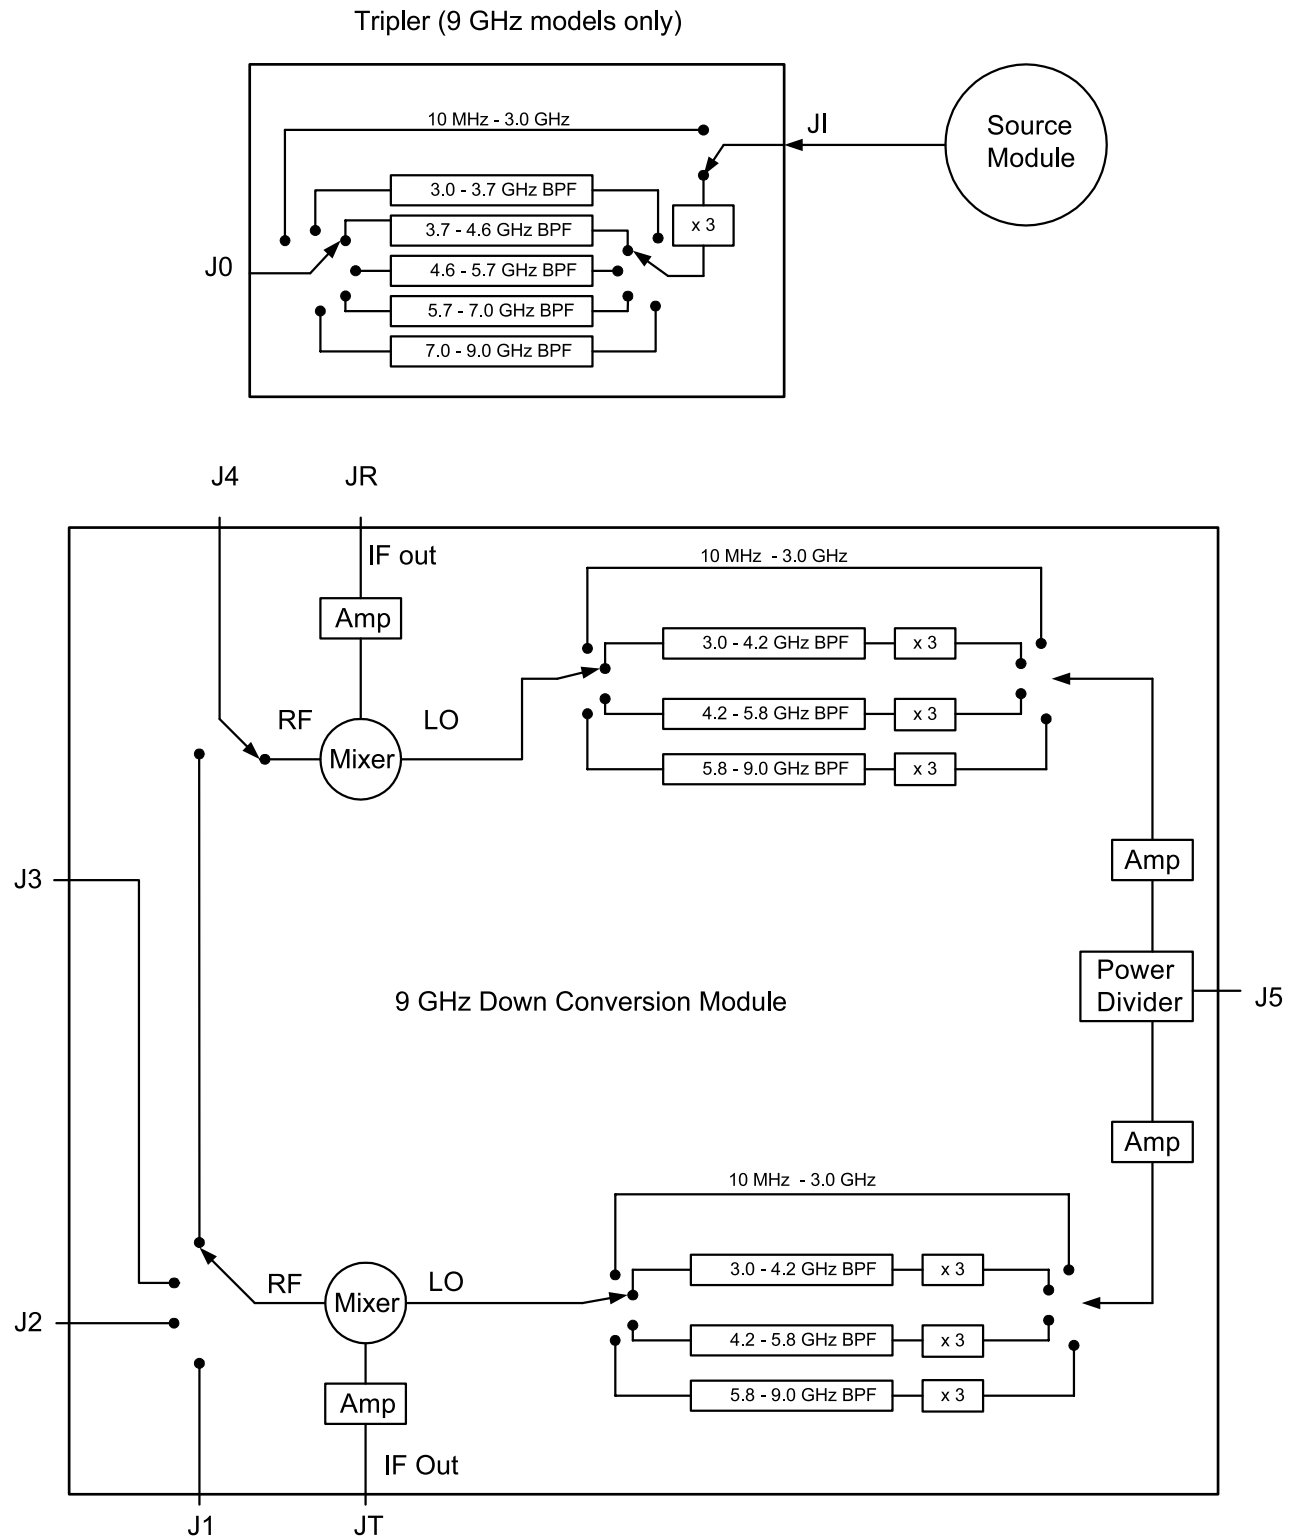

Figure 2-22. Switched Tripler and 9 GHz Down Conversion Module Functional Block Diagrams
* Refer to Figure 2-22 (page 2-47) for a functional block diagram of the Source Tripler and 9 GHz Down Conversion Module used on the model MS4624A.
* Refer to Figure 2-22 (page 2-47) for a functional block diagram of the Source Tripler and 9 GHz Down Conversion Module used on the model MS4624B.
* Refer to Figure 2-22 (page 2-47) for a functional block diagram of the Source Tripler and 9 GHz Down Conversion Module used on the model MS4624C.
* Refer to Figure 2-22 (page 2-47) for a functional block diagram of the Source Tripler and 9 GHz Down Conversion Module used on the model MS4624D.